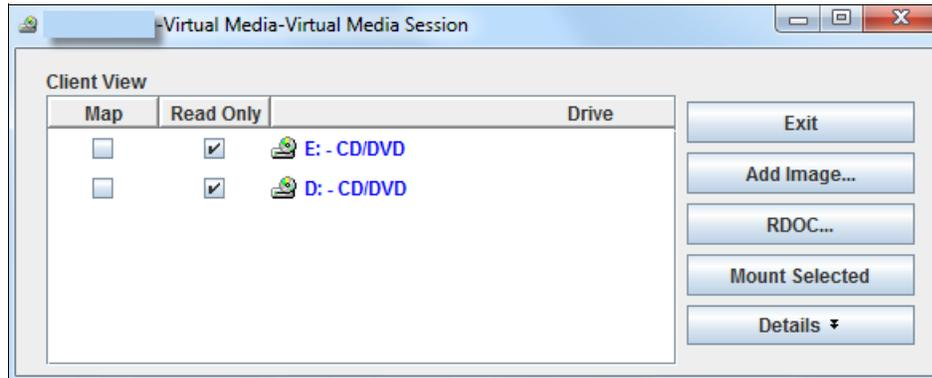

Figure 2-20 The Virtual Media Session window
- In the Video Viewer window, click **Tools** → **Launch Virtual Media**. Figure 2-20 shows the Virtual Media window.